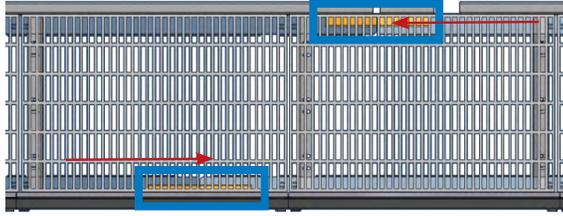

Figure 14. Move splice plates into positions shown
- d. Slide the two splice plates into mounting positions. Secure with provided hardware. See **Figures 14, 15** and **16**.